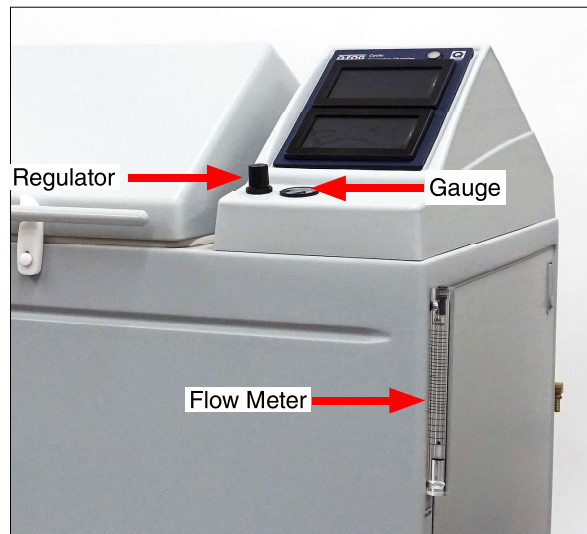

Figure 12.2f: Fog Spray Pressure Regulator, Pressure Gauge and Flow Meter
- The flow rate is displayed on the flow meter. (Figure 12.2f).
- The fog spray pressure is set by the fog pressure regulator and shown on the fog pressure gauge (Figure 12.2f).